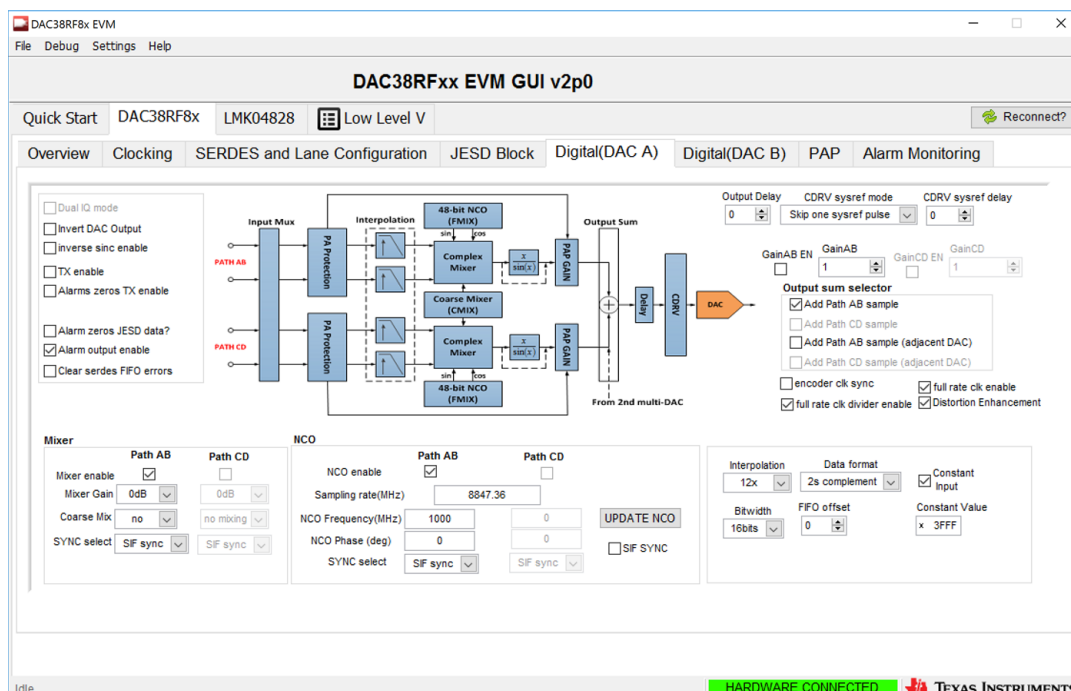

Figure 4. DAC38RFxx EVM GUI Digital(DAC A) Tab
- (d) Check the *Constant Input* box and enter a value into the *Constant Value* box to send data to the DAC. See Figure 4 for reference. If the DAC is running properly there should now be a 1-GHz tone at the DAC output IOUTA.